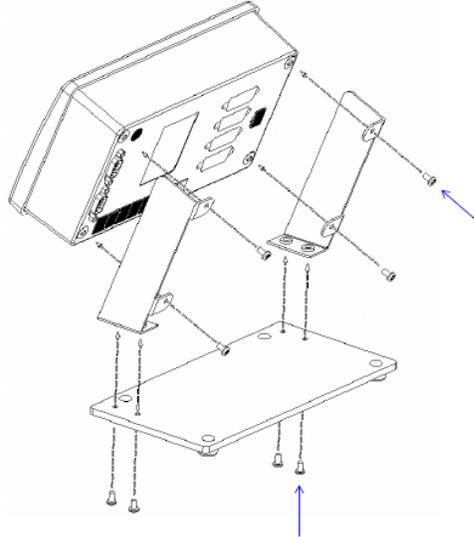
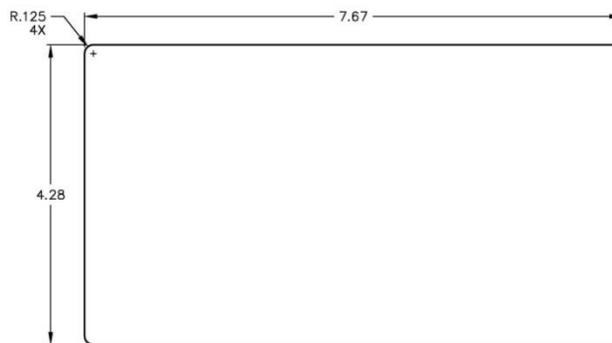

Figure 1: Drawing depicting the assembly of CM-400 with standard desk mounting kit.
Figure 2: Cutout dimensions of the optional panel mounting kit.
The CM-400 includes a standard desk mounting kit. The assembly diagram is shown below in Figure 1. An optional panel mounting kit is available. The panel mount cutout dimensions are shown in Figure 2 below.
2. Assemble and attach the Table Top Bracket (See Figure 1).